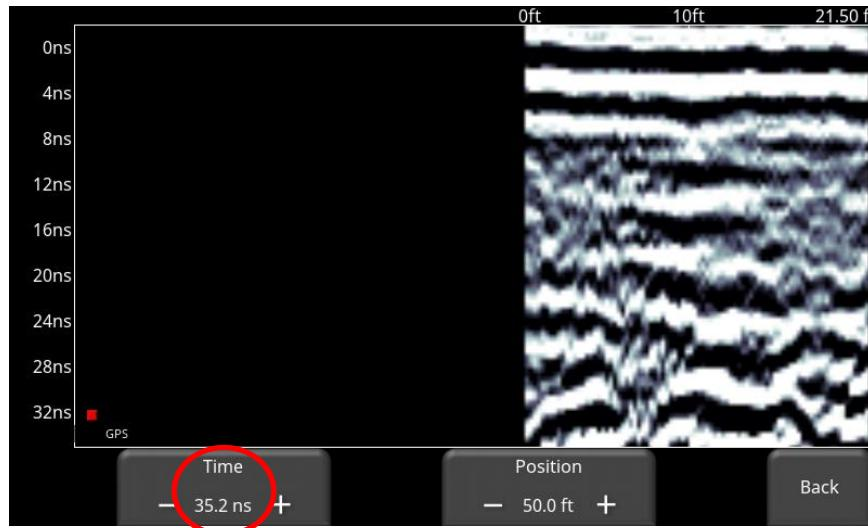

Figure 7-11: Changing the displayed time
**Time** – if the user changes the vertical axis to show time (in nanoseconds), then the screen will appear like Figure 7-11, where pressing the + and – buttons under Time will allow them to change the displayed time window.